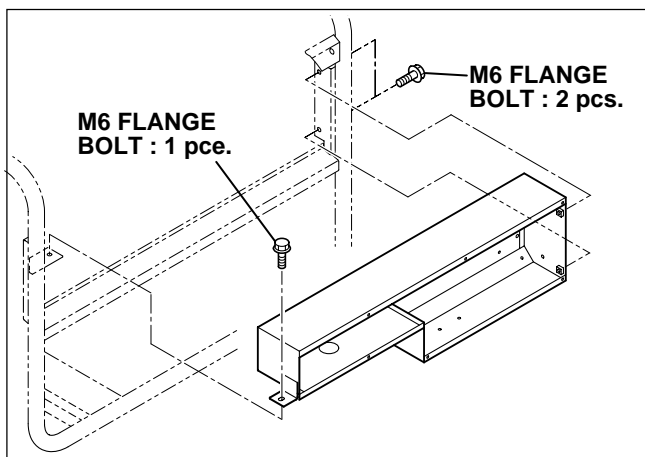

Fig. 10-3-1
- (4) Take off the flange four bolts and remove the control box from the frame. (See Fig. 10-3-1.)